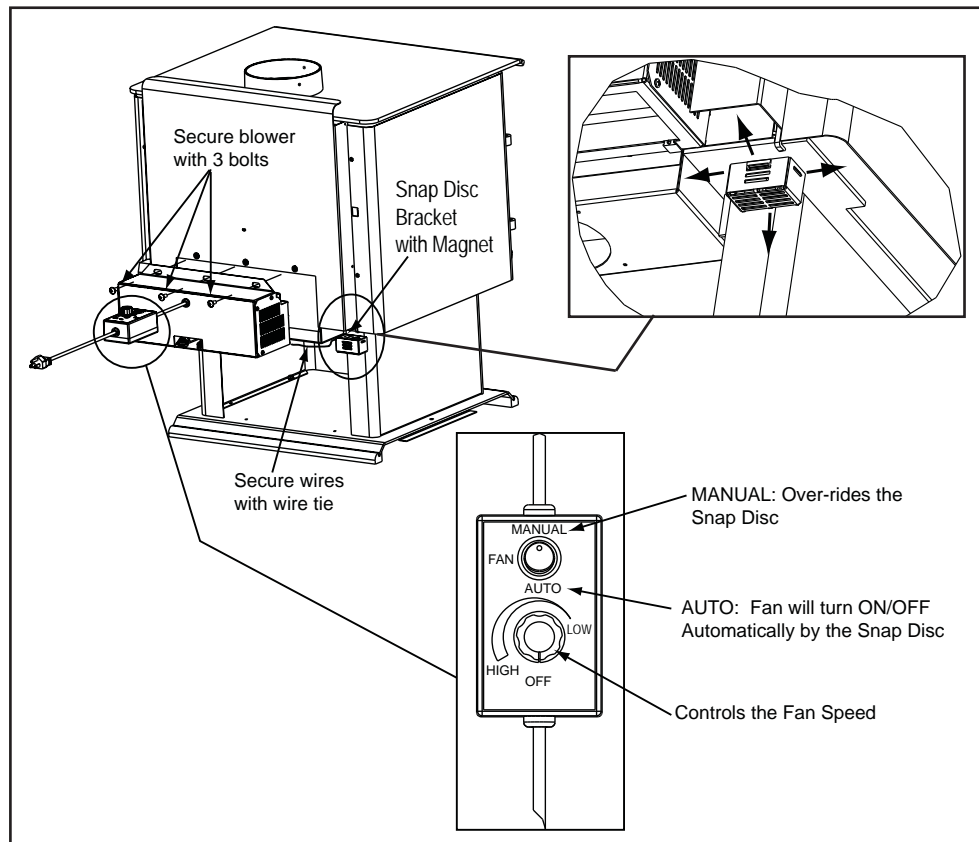

Figure 13.1
2. Align holes in mounting flange of blower with bolt holes in appliance. Blower should be positioned at bottom of rear outer skin as shown in **Figure 13.1**.
4. Place the bracket containing the snap disc and magnet under the bottom left rear corner as shown in **Figure 13.1**.